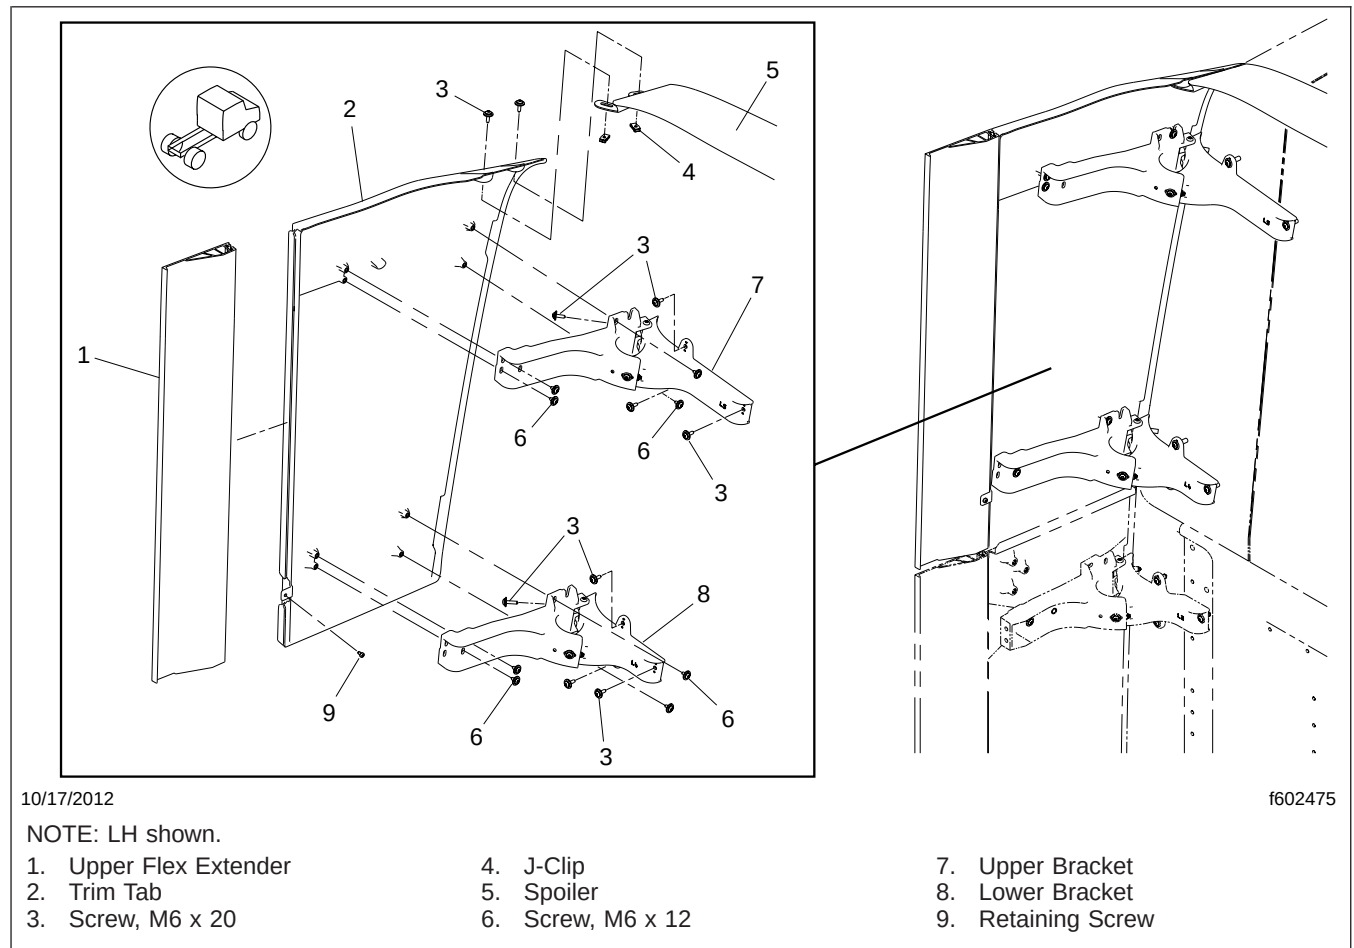

Fig. 1, 20-Inch Trim Tab Installation
2. If it is necessary to remove the upper flex extender, remove the retaining screw (Fig. 1, item 9) near the lower bracket, then remove the flex extender as shown in Subject 100.